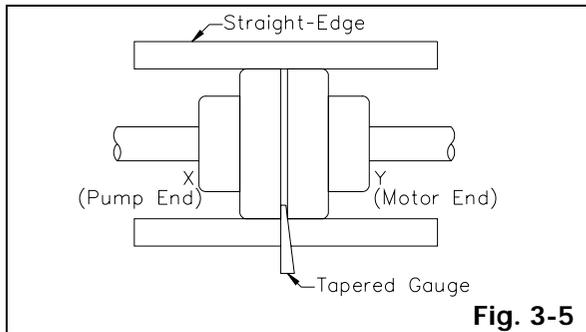

Fig. 3-5
1. Place the straight-edge across both halves of the coupling parallel to the shaft (Fig. 3-5).
2. Use tapered gauge to check the spacing between the periphery of each half of the coupling (Fig. 3-5).